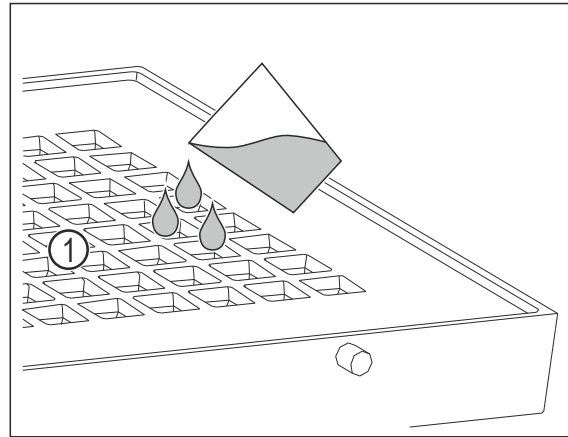

Fig. 122
- ▶ Fill with a maximum of 400 ml of water through the holes Fig. 122 (1) in the cover.